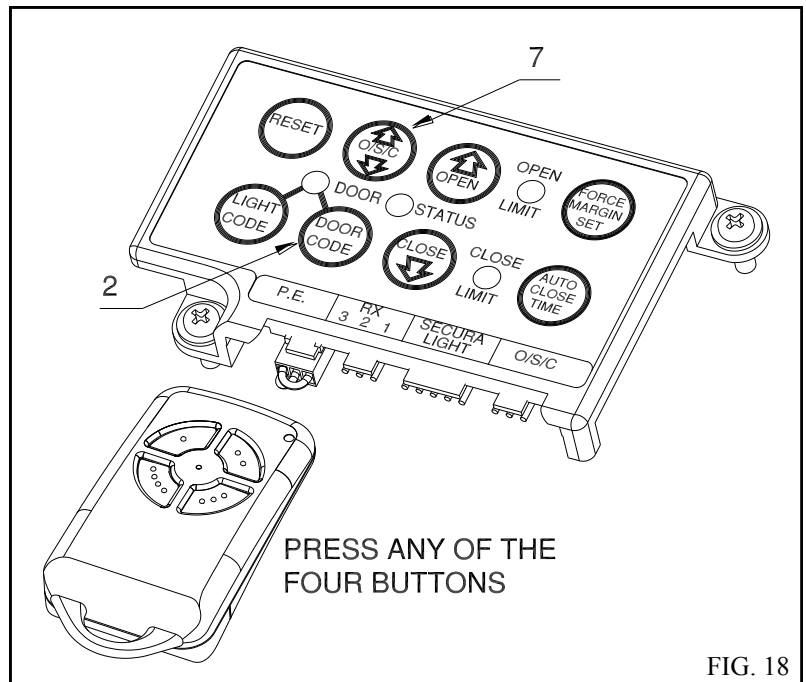

FIG. 18
1. Open the door by pressing the Yellow O/S/C button 7 (Fig 18).
1. Close the door by pressing the Yellow O/S/C button 7. (Fig 18).
1. **Press and hold** the blue Door Code button on the Control Panel button 2 (FIG. 18).
2. Press the button (one of four) on the Transmitter you would like to use to control the door for approximately two seconds, (FIG. 18). Pause for two seconds. Press the same button again on the Transmitter for approximately two second.
8.2 STORING ADDITIONAL TRANSMITTER (S) FROM A REMOTE LOCATION